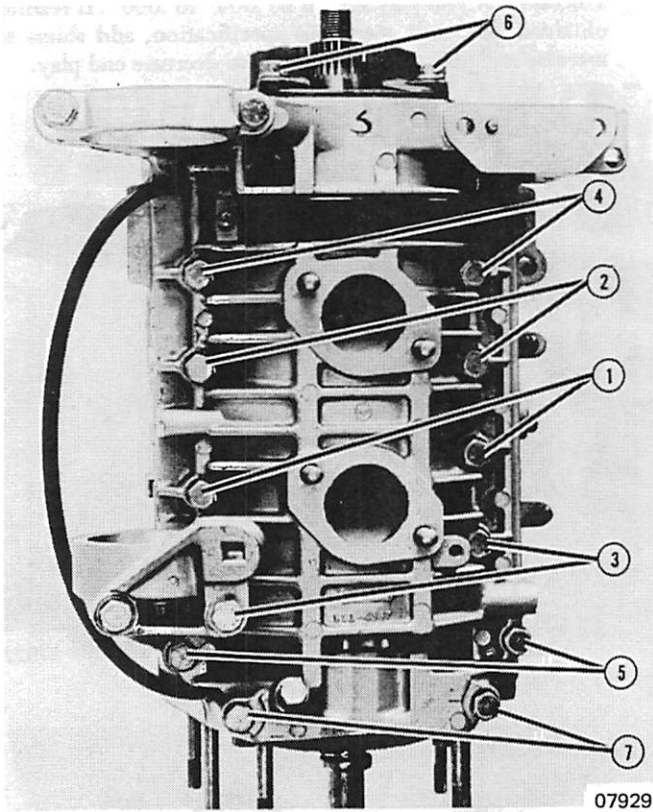

Figure 12. Correct Torquing Sequence
27. Install end caps and crankcase cover. Make sure that reed cage is centered in carburetor inlet. Tighten crankcase bolts (starting with center bolts and working to top, then from center to bottom, etc) to prevent distortion of covers and possible leakage. (Figure 12) Torque crankcase cover to specification. (Figure 12) Install end cap bolts and tighten.